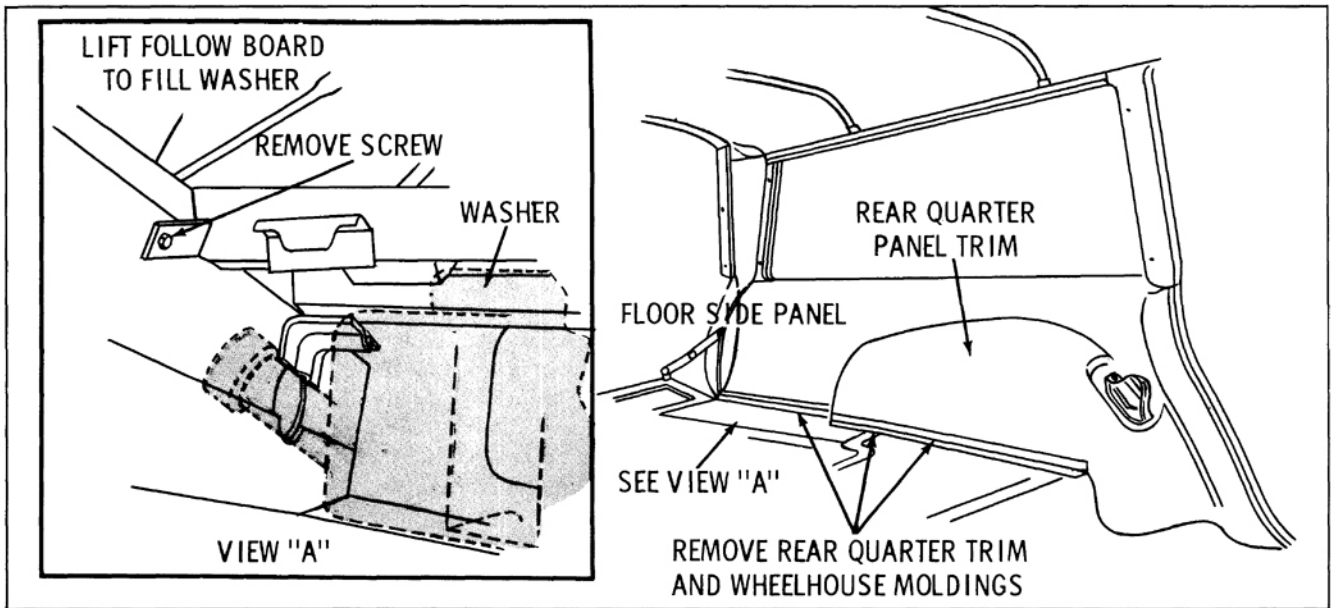

Fig. 16-225 Washer Jar Installation
The washer and pump are located under the left floor side panel. (Fig. 16-225)
and spring the trim panel enough to gain access to the two outboard washer attaching screws. (Fig. 16-225)
5. Remove the sheet metal screw from tab at rear of floor side panel. (View "A", Fig. 16-225)